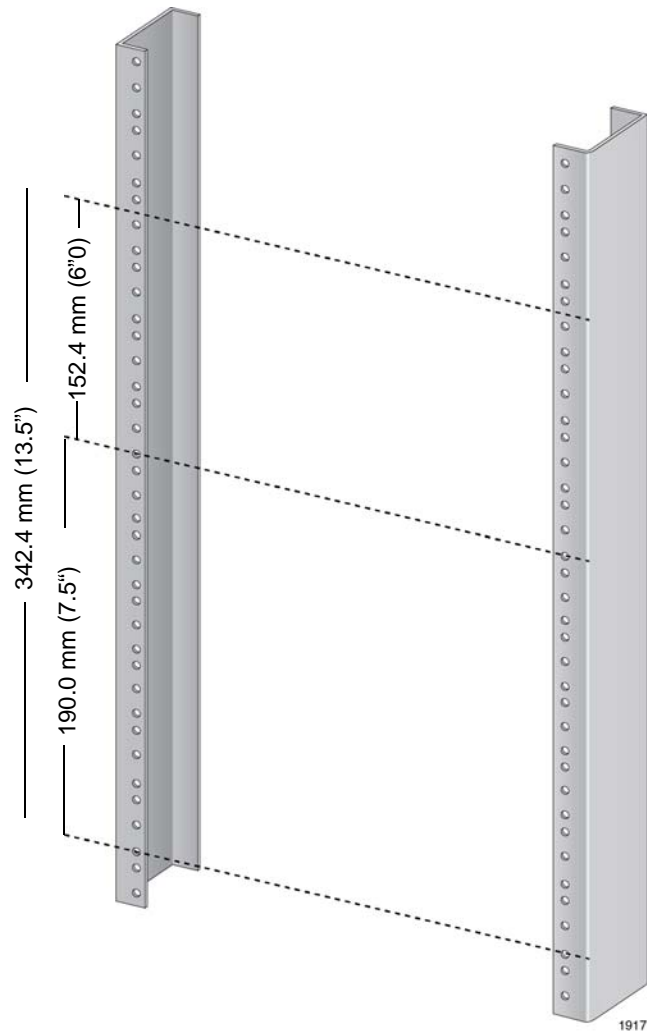

Figure 25. Reserving Vertical Rack Space
1. Reserve 190.0 mm (7.5") of vertical rack space for the installation of the AT-SBx8106 Chassis, as shown in Figure 25 on page 84.